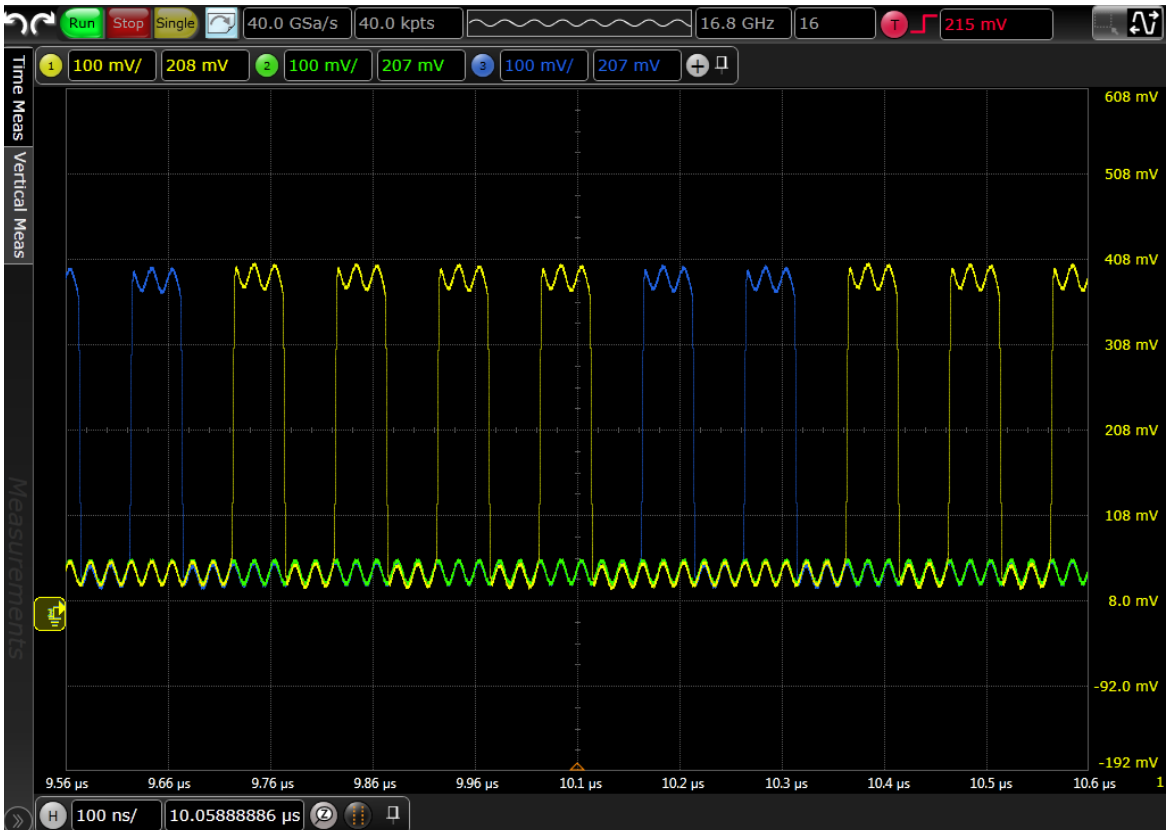

Figure 6 Low Power interference
- 3 **Figure 6** shows the Low Power interference with a frequency of 50 MHz.